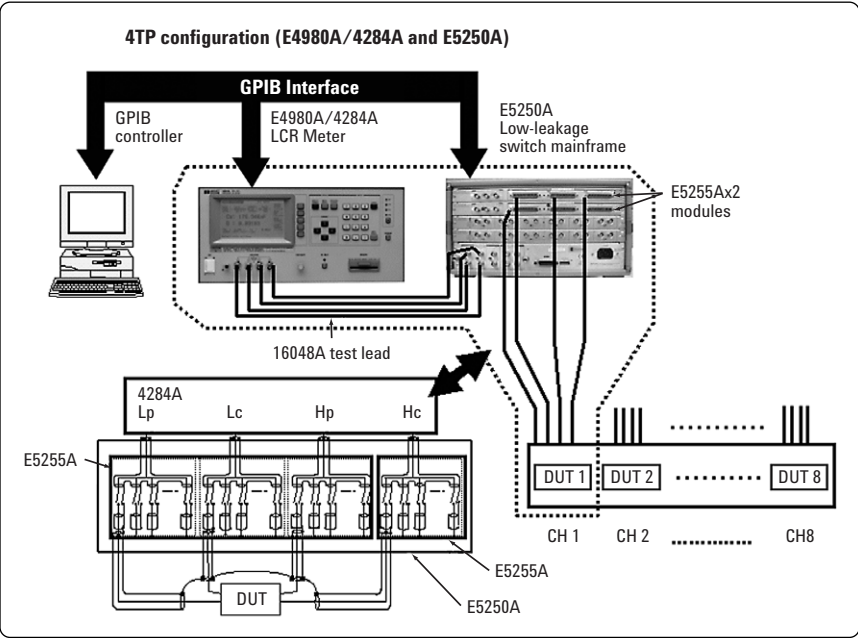

Figure 9. Example of scanning system using 4TP configuration
Figure 9 shows an example of a scanning system using the 4TP configuration. In this example, an 8-channel scanning system is built by using the GPIB controller, the E4980A or the 4284A (LCR meter), and the E5250A (low-leakage switch mainframe) with the E5255A (multiplexer module (2)). The 16048A is used as the connection cable between the E4980A or the 4284A and the E5250A.